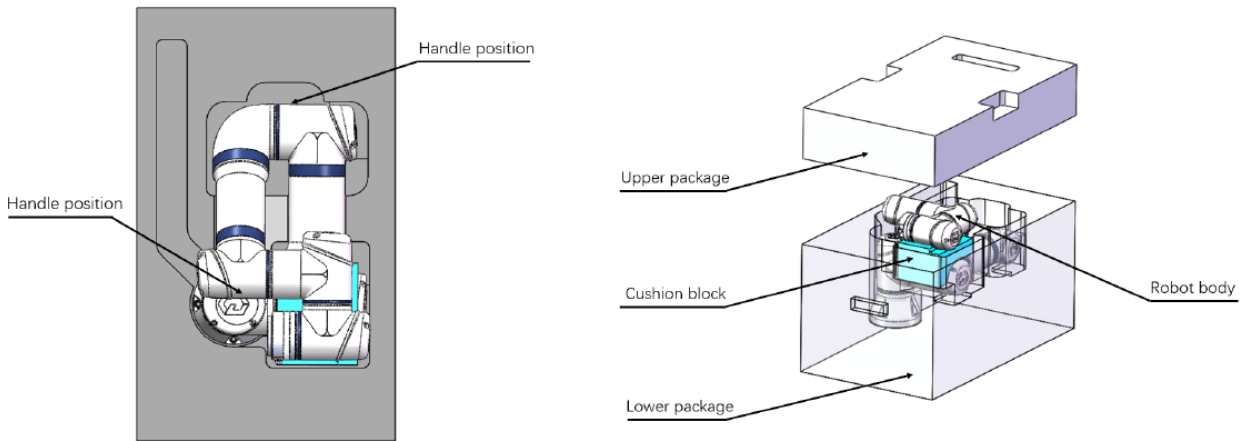

Figure 6-1 : Robot packaging diagram 1
1. A1: 45°, A2: -180°, A3: 150°, A4: -60°, A5: 180°, A6: -90°, as shown in **Figure 6-1**;